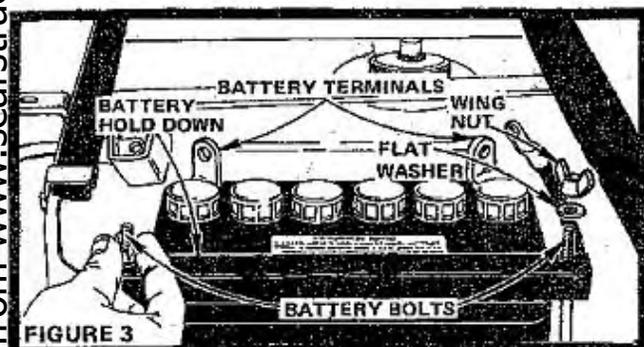

FIGURE 3
- b. Place Battery in Battery Tray (Battery Terminals to inside) (Fig. 3).
- c. Fasten Battery to installed Battery Bolt with the Battery Hold Down, Washer and Wing Nut (Fig. 3).
- d. Hook remaining Battery Bolt to rear of Battery Support and fasten Battery Hold Down to it with remaining Flat Washer, and Wing Nut. Tighten Wing Nuts securely (Fig. 3).